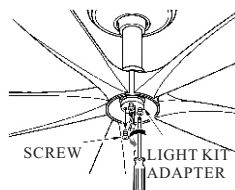

FIG. 12
1. Remove 1 of 3 screws on fan adapter and loosen the other 2 screws.(see fig.12)